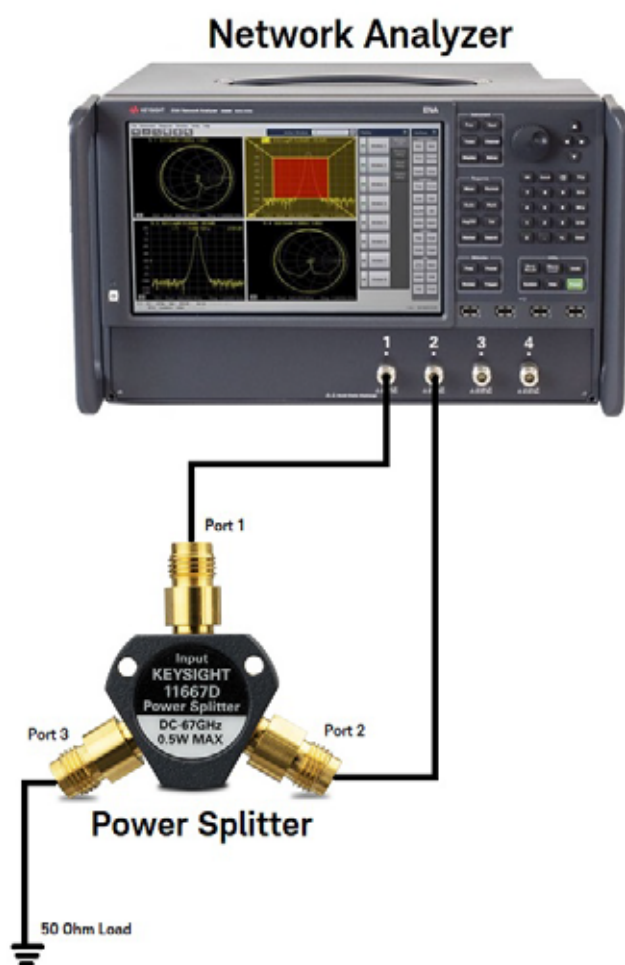

Figure 4-2 Output tracking test setup (Port 3 Terminated)
- 2 Connect ports 1 and 2 of the power splitter to the ports 1 and 2 of the network analyzer respectively. Terminate port 3 of the power splitter with 50 ohm load (refer to Figure 4-2).